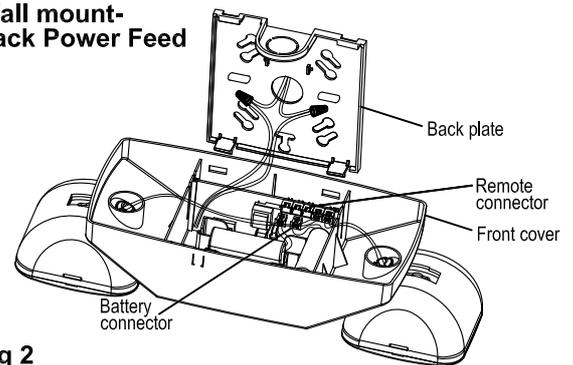

Fig 2
## Wall Mount - Back Power Feed (see Fig 2)
7. Connect battery connector.(see Fig 2).
## Connect Remote Heads (see Fig 2)